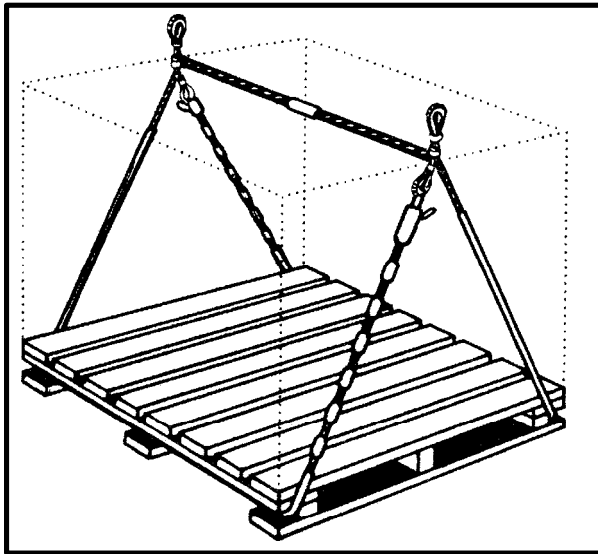

Figure 9-4. Pallet Sling
**d. Pallet Sling.** The pallet sling is a two-loop wire rope sling used to lift loaded pallets without using a cargo net (Figure 9-4). Lifting eyes provide the attachment points for the hoisting sling used to carry the load by helicopter. There are four models of this sling; each model accommodates a different size load and a color-coded tube on the cable between the two lifting eyes indicates the sling size (see Table 9-1).